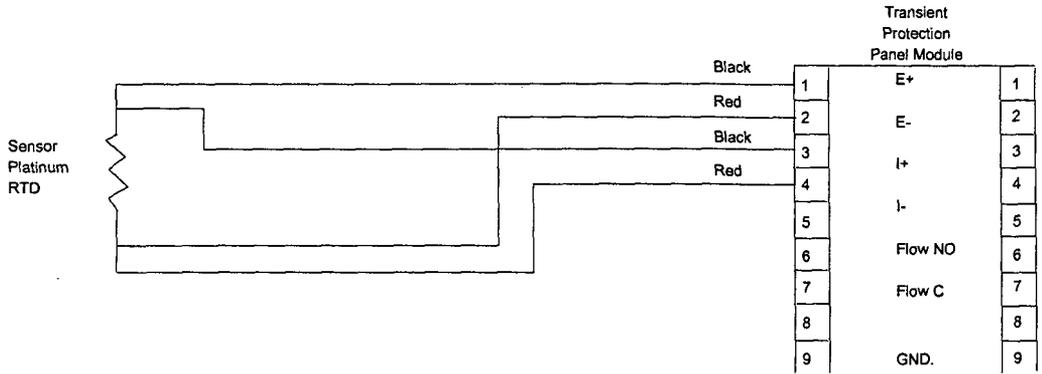

FIGURE 3
4.2.5 Connect ambient temperature sensor leads to Transient Protection Panel module 7, input terminals 1(E+), 2(E-), 3(I+) and 4(I-). (Refer to Figure 3)